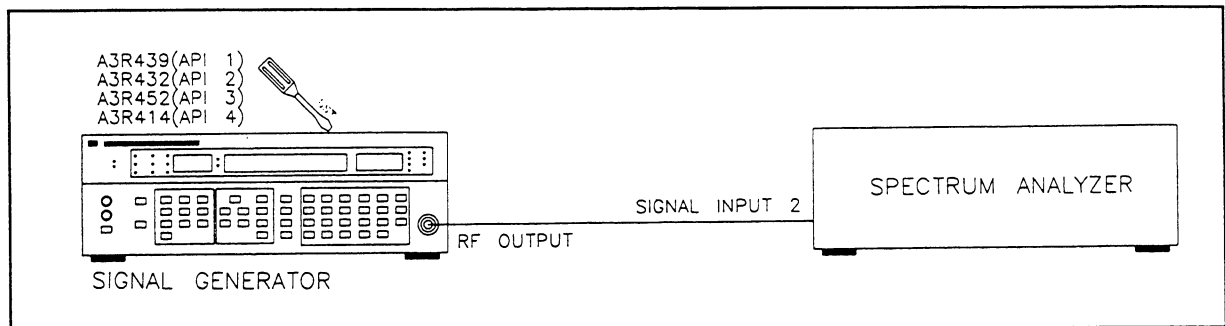

Figure 5-29. API 1, 2, 3 and 4 Adjustment Setup
3. Connect the RF OUTPUT of the Signal Generator to the spectrum analyzer as shown in Figure 5-29.